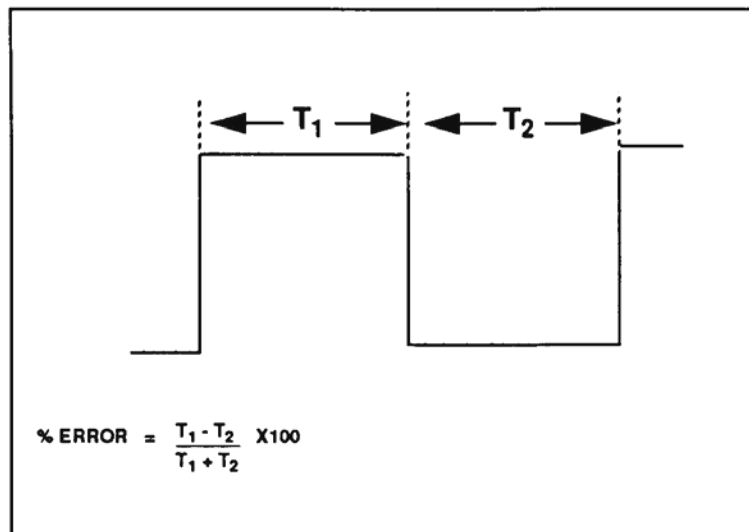

Figure 1. Symmetry waveform.
- (1) Connect oscilloscope to **FUNCTION OUT** using 50 Ω feedthrough termination.
- (2) Turn frequency dial to **.02** and adjust **ATTENUATION VERNIER** control for a 5 V p-p indication on oscilloscope.
- (3) Adjust oscilloscope to display 1 cycle at 5 major divisions (horizontal).
- (4) Using a shorting lead, alternately short and open **VCG IN** terminal while observing oscilloscope display. If waveform shifts horizontally, perform **b** (1) below.
- (5) Disconnect oscilloscope from TI and connect TI to frequency counter.
- (6) Set **FREQ/PERIOD MULTI (Hz/s)** switch to **100K** and **VERNIER** control fully ccw. If frequency counter does not indicate 5 ms or greater, perform **b** (2) below.
- (7) Adjust frequency counter to measure symmetry of square wave. If T_1 is not within ± 0.5 percent of T_2 (fig. 1), perform **b** (3) and (4) below.
- (8) Position controls as listed in (a) through (c) below:
(9) Measure symmetry of square wave. If T_1 is not within ± 0.5 percent of T_2 (fig. 1), perform **b** (5) below.